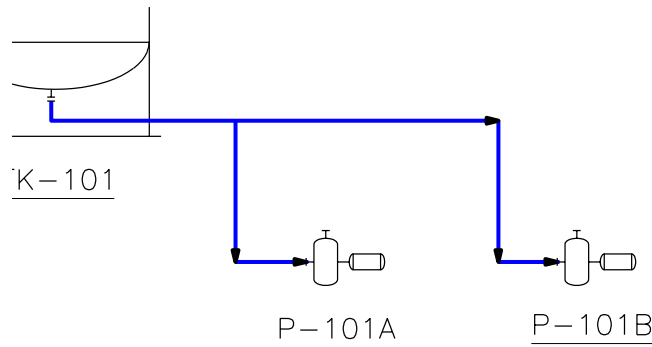

Figure 2-46 Line connecting the horizontal nozzle of the pump tagged **P-101A**
4. Create a line connecting the previously created line to the horizontal nozzle of the pump tagged **P-101A**, refer to Figure 2-46. Assign the tag **10"-CS150-P-1004** to the line.